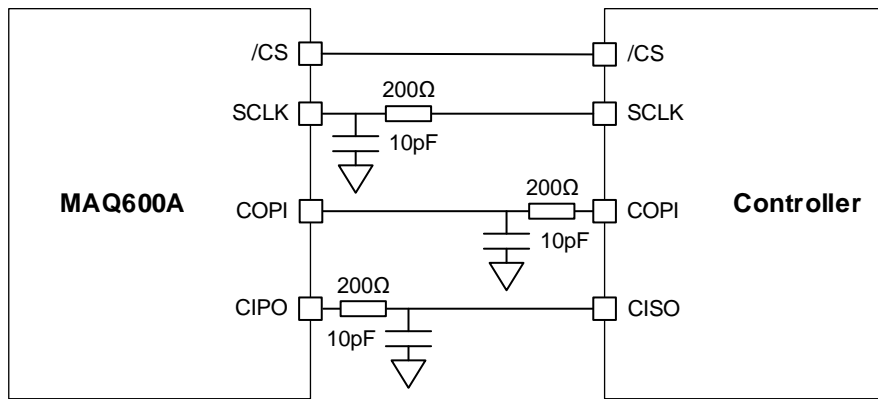

Figure 47: Example of RC Low Pass Filters on the SPI Signals
- Insert an RC low-pass filter on SCLK (see Figure 47 on page 43). This RC filter must be located close to the sensor. It is recommended to use a 200Ω serial resistor with a 10pF shunt capacitor to obtain an 80MHz filter cutting frequency.
- Insert RC low-pass filters on the CIPO and COPI signals (see Figure 47 on page 43). The RC filter on COPI must be located close to the controller, while the filter on CIPO must be located close to the sensor. It is recommended to use a 200Ω resistor with a 10pF capacitor.